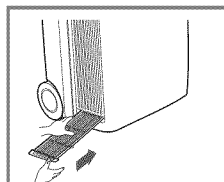

Fig.3
3. Feed the $\frac{1}{4}$ -inch hose provided through the hole in the **DRAIN CAP**. (Fig.3)